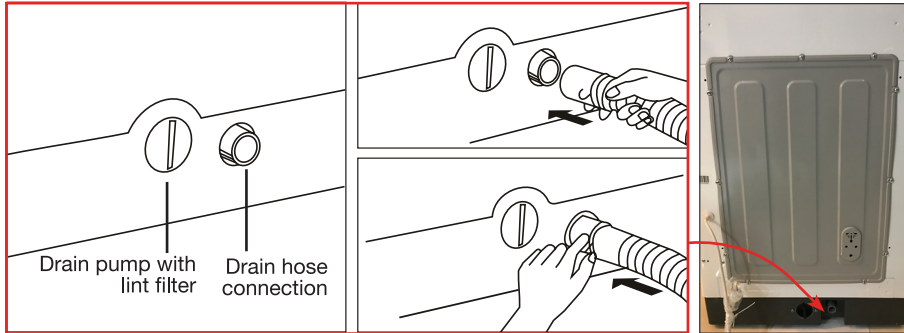

Fig. 3
- The drain hose and drain pump filter are located at the back of the machine, as illustrated below (Fig. 3).